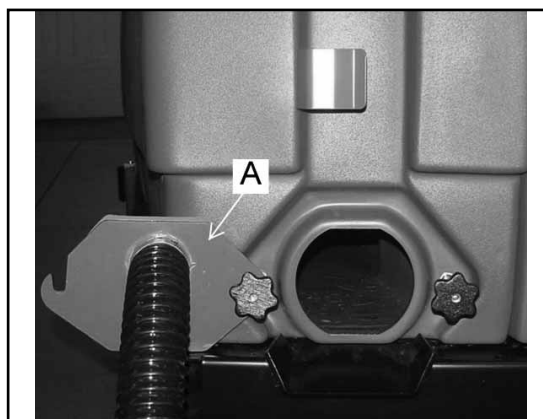

FIGURE 76
Drive the machine to a draining area. Loosen the knobs on the recovery clean out door (A) and pivot the door to the left as shown in figure 76. With the water hose flush out the bottom of the recovery tank clean out door to remove larger particles of debris.